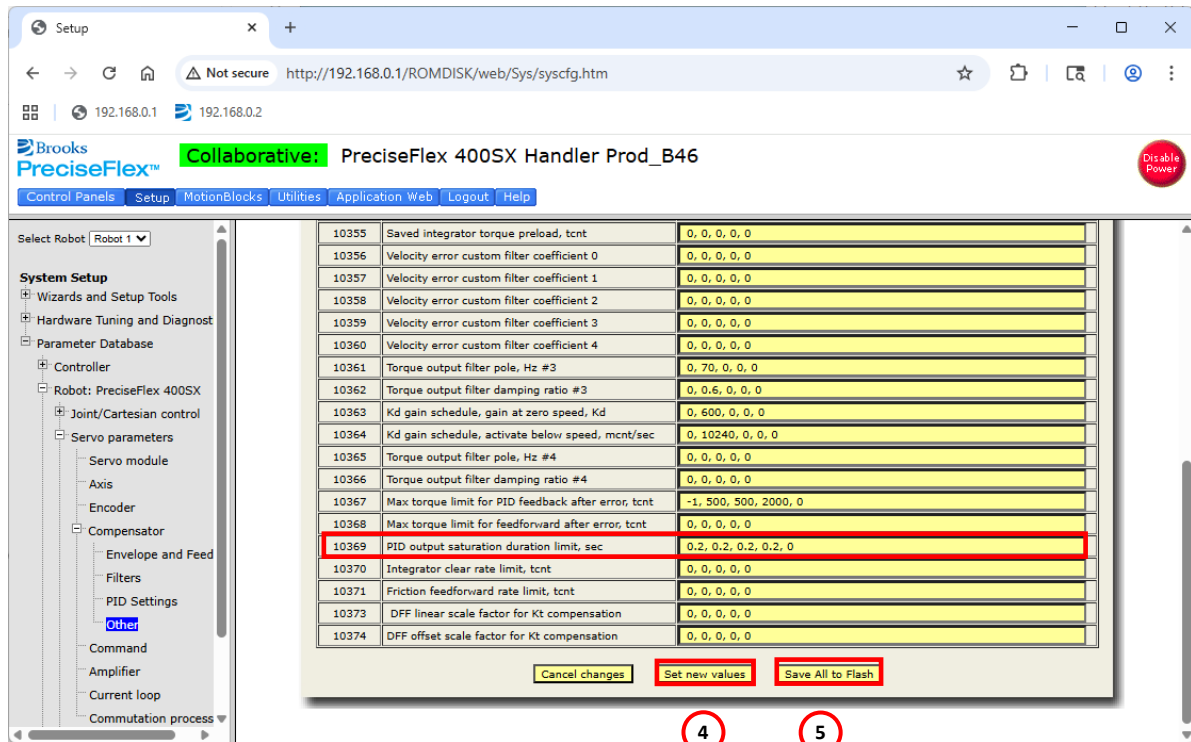

Figure 2: Valid Values for 10369
- Figure 2 illustrates the updated settings.